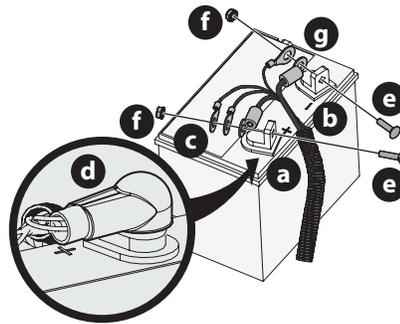

Figure 21
**NOTE:** The positive battery terminal is marked POS. (+) (a). The negative battery terminal is marked NEG. (-) (b) (Figure 21).
**NOTE:** If the positive cable grouping (c) is already attached, skip ahead to Step 6 (Figure 21).
3. Slide the red boot (d), if present, back along the positive cable grouping (Figure 21).
4. Attach the positive cable grouping (c) and positive cable for the 12V outlet (if equipped) to the positive battery terminal (a) with the bolt (e) and nut (f) (Figure 21).
5. Position the red boot (d) over the positive battery terminal (a) to insulate it and help protect it from corrosion (Figure 21).
6. Attach the negative cable grouping (g) and negative cable for the 12V outlet (if equipped) to the negative battery terminal (b) with the bolt (e) and nut (f) (Figure 21).